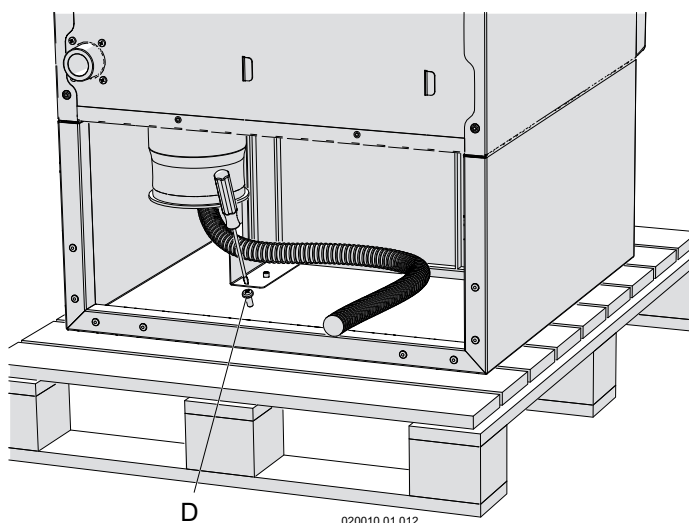

Figure 6-2 Remove heater from wood pallet
3. Remove the screw "D" in the rear of the unit (Figure 6-2).